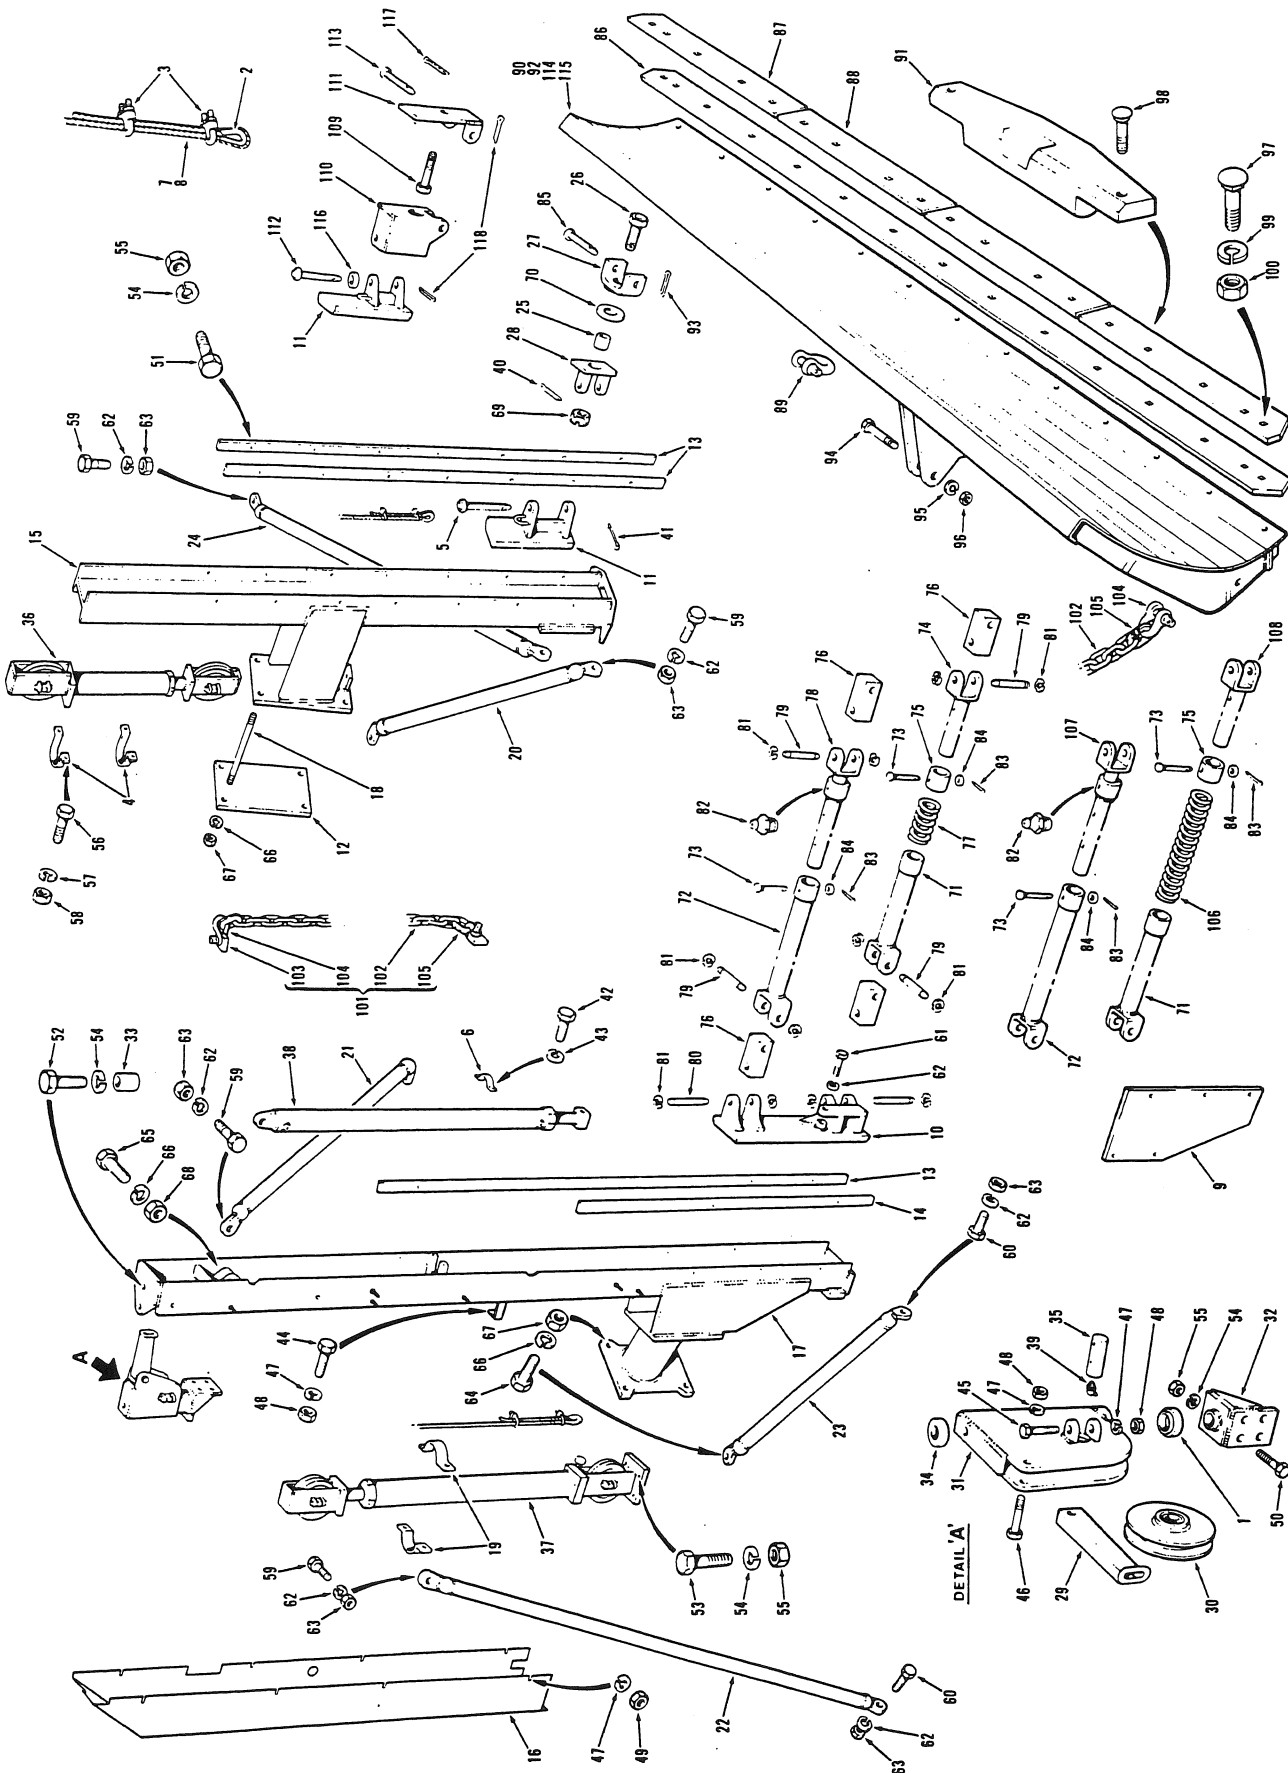

Figure 15
1. Removal and Disassembly (Figs. 15, 16 and 17).
Attach the lifting tackle to the wing blade (90, 92, 114 or 115, Fig. 15). Remove the two hexagon head bolts (94, Fig. 15), nuts (96, Fig. 15) and lockwashers (95, Fig. 15) retaining the knuckles (76, Fig. 15) to the wing blade. Remove and discard the cotter
pin (93, Fig. 15) retaining the pin (85, Fig. 15), and remove the pin. Disconnect the shackle (89, Fig. 15) and remove the cable (8, Fig. 15). Hoist the blade away from the grader. Remove the lifting tackle.
For machines equipped with the optional trip wing installation, remove and discard the cotter pin (118, Fig. 15) retaining the pivot plate pin (113, Fig. 15), and remove the pin. Remove and discard the cotter pin (117, Fig. 15) retaining the hexagon head bolt (109, Fig. 15). Remove the bolt and hinge plate (111, Fig. 15).
7. Attach the lifting tackle to the front mast (15, Fig. 15). Remove the hexagon head bolts (59, Fig. 15), nuts (63, Fig. 15) and lockwashers (62, Fig. 15) retaining the lower front mast brace (20, Fig. 15) and forward front mast brace (24, Fig. 15). Remove the braces.
8. Remove the four nuts (67, Fig. 15) and lockwashers (66, Fig. 15) retaining the front mast to the mounting bracket tie bolts (18, Fig. 15). Carefully hoist the front mast away from the grader. Remove the mounting bracket (12, Fig. 15) and tie bolts. Remove the lifting tackle.
9. Remove the kliprings (81, Fig. 15) securing the two attachment pins (80, Fig. 15) connecting the knuckles (76, Fig. 15) to the rear mast slide (10, Fig. 15). Remove both the upper and lower stand-off arms.
10. Attach the lifting tackle to the rear mast (17, Fig. 15). Remove the hexagon head bolts (59, Fig. 15), nuts (63, Fig. 15) and lockwashers (62, Fig. 15) retaining the forward rear mast brace (21, Fig. 15). Remove the hexagon head bolts (59 and 60, Fig. 15), nuts (63, Fig. 15) and lockwashers (62, Fig. 15) retaining the aft rear mast brace (22, Fig. 15). Remove the hexagon head bolts (60 and 64, Fig. 15), nuts (63 and 67, Fig. 15) and lockwashers (67 and 66, Fig. 15) retaining the lower rear mast brace (23, Fig. 15). Remove the braces.
11. Remove the four hexagon head bolts (64, Fig. 15), nuts (67, Fig. 15) and lockwashers (66, Fig. 15) retaining the rear mast support to the grader frame. Carefully hoist the rear mast away from the grader. Remove the lifting tackle.
- a. Remove the cable clamps (3, Fig. 15) securing the cable ends (7, Fig. 15). Release the two thimbles (2, Fig. 15), and remove the cable.
- b. Attach lifting tackle to the lift cylinder (36, Fig. 15). Remove the cylinder plumbing. Remove the four hexagon head bolts (56, Fig. 15), nuts (58, Fig. 15) and lockwashers (57, Fig. 15) retaining the two clamps (4, Fig. 15). Remove the clamps and cylinder.
- d. Remove the seven hexagon head bolts (51, Fig. 15), nuts (55, Fig. 15) and lockwashers (54, Fig. 15) retaining each slide guide (13, Fig. 15), and remove the guides.
- e. Remove and discard the cotter pin (41, Fig. 15) retaining the pin (5, Fig. 15), and remove the hinge assembly from the slide (11, Fig. 15). Remove the slide.
- f. Remove and discard the cotter pin (40, Fig. 15) retaining the hexagon head bolt (26, Fig. 15). Remove the bolt and jam nut (69, Fig. 15), and separate the hinge (28, Fig. 15), spacer (25, Fig. 15), flatwasher (70, Fig. 15) and mounting swivel (27, Fig. 15).
- a. Remove the eight nuts (49, Fig. 15) and lockwashers (47, Fig. 15) retaining the ice shield (16, Fig. 15), and remove the ice shield.
- b. Remove the cable clamps (3, Fig. 15) securing the cable ends (8, Fig. 15). Release the two thimbles (2, Fig. 15), and remove the cable.
For machines equipped with the optional trip wing installation, remove and discard the cotter pin (118, Fig. 15) retaining the swivel pin (112, Fig. 15). Remove the swivel pin, spacer washer (116, Fig. 15) and swivel assembly (110, Fig. 15). Remove the slide (11, Fig. 15).
- c. Remove the two hexagon head bolts (44, Fig. 15), nuts (48, Fig. 15) and lockwashers (47, Fig. 15) retaining the two clamps (19, Fig. 15).
- d. Attach lifting tackle to the lift cylinder (37, Fig. 15). Remove the cylinder plumbing. Remove the four hexagon head bolts (53, Fig. 15), nuts (55, Fig. 15) and lockwashers (54, Fig. 15) retaining the cylinder base plate. Remove the cylinder.
- f. Remove the hexagon head capscrew (61, Fig. 15) and lockwasher (62, Fig. 15) retaining the slide cylinder piston rod to the slide. Remove the cylinder plumbing. Remove the hexagon head capscrews (42, Fig. 15) and lockwashers (43, Fig. 15) retaining the clamp (6, Fig. 15). Remove the hexagon head bolt (65, Fig. 15), nut (68, Fig. 15) and lockwasher (66, Fig. 15) retaining the slide cylinder (38, Fig. 15) to the rear mast lugs. Remove the cylinder.
- g. Remove the twelve hexagon head bolts (51, Fig. 15), nuts (55, Fig. 15) and lockwashers (54, Fig. 15) retaining the long and short slide guides (13 and 14, Fig. 15), and remove the guides. Remove the slide.
- h. Remove the hexagon head capscrew (52, Fig. 15), lockwasher (54, Fig. 15) and spacer washer (33, Fig. 15). Remove the four hexagon head bolts (50, Fig. 15), nuts (55, Fig. 15) and lockwashers (54, Fig. 15) retaining the swivel housing bracket (32, Fig. 15). Remove the bracket, together with the swivel housing assembly, spacer collar (34, Fig. 15) and thrust bearing (1, Fig. 15). Inspect the thrust bearing for serviceability. Replace a faulty bearing.
- i. Remove the hexagon head bolt (46, Fig. 15), nut (48, Fig. 15) and lockwasher (47, Fig. 15) securing the cable guide (29, Fig. 15), and remove the guide.
- j. Remove the hexagon head bolt (45, Fig. 15), nut (48, Fig. 15) and lockwasher (47, Fig. 15) retaining the sheave pin (35, Fig. 15). Remove the sheave pin and sheave (30, Fig. 15) from the swivel housing (31, Fig. 15).
Remove the hardware retaining the ice shield (9, Fig. 15) to the mast, and remove the ice shield.
- l. For machines equipped with the optional wing safety chain assembly (101, Fig. 15), remove the two shackles (104, Fig. 15) at the lugs (103, Fig. 15), and remove the chain (102, Fig. 15). The chain can also be removed at the two split links (105, Fig. 15).
- a. Remove the kliprings (81, Fig. 15) securing the attachment pins (79, Fig. 15) connecting the knuckles (76, Fig. 15) to the inner sleeves (78 and 74, or 107 and 108, Fig. 15) and the outer sleeves (72 and 71, Fig. 15).
15. Assembly and Installation (Figs. 15, 16 and 17). To assemble the upper and lower stand-off arms, proceed as follows:
- a. Install the collar (75, Fig. 15) and spring (77 or 106, Fig. 15) onto the lower stand-off arm inner sleeves (74 or 108, Fig. 15). Retain the collar with the shear pin (73, Fig. 15), flatwasher (84, Fig. 15) and a new cotter pin (83, Fig. 15).
- b. Insert the inner sleeves into the outer sleeves (72 and 71, Fig. 15). Retain the inner and outer sleeves of the upper stand-off arms with the shear pin (73, Fig. 15), flatwasher (84, Fig. 15) and a new cotter pin (83, Fig. 15).